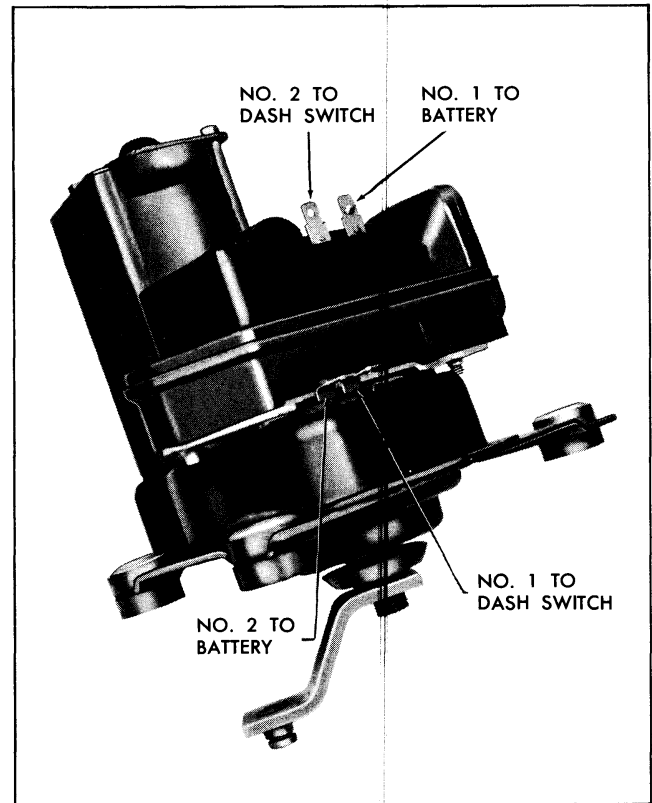

Fig. 11-93 Washer Pump Terminals
2. If all items in Step 1 check out, start wiper motor only, then push washer button and listen for "click" as washer relay pulls in. If no "click" is heard, check for 12 volts at terminal No. 2 (Fig. 11-93). No voltage indicates defective wiring. If "click" is heard, proceed to Step 4.
3. If correct voltage was found in step No. 2, connect a jumper wire from terminal No. 1 to ground (Fig. 11-93) and operate wiper. If washer relay "click" is heard and pump functions correctly, a defective dash switch or an open circuit between washer pump and dash switch is indicated—"No Click" indicates an open relay coil.